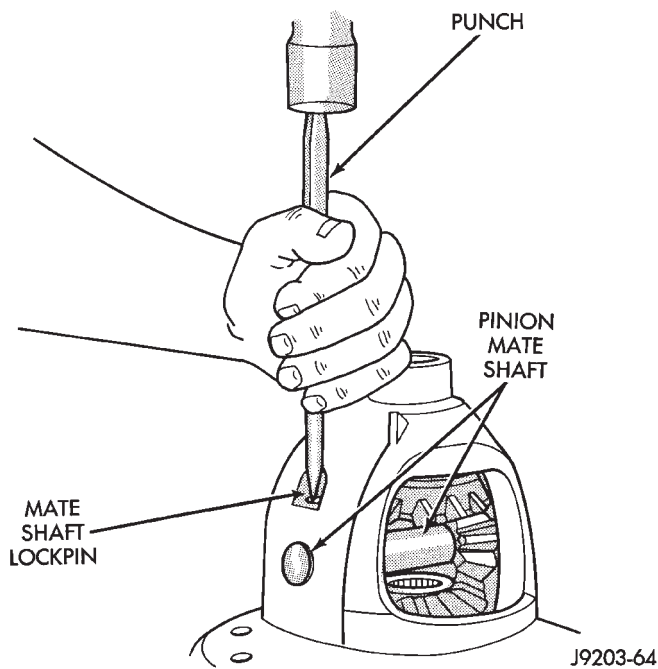

Fig. 38 Mate Shaft Pin Installation
(1) Install the following components in the differential case (Fig. 38).
(2) Install and seat the locking roll pin in the differential case and mate shaft with a punch and hammer (Fig. 38). Peen metal part of case over pin in two places 180 degrees apart.